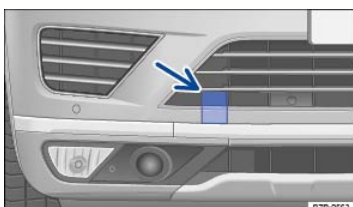

Fig. 224 In right front bumper: Removing the cover.
- Push the outboard edge of the cover ⇒ Fig. 224.